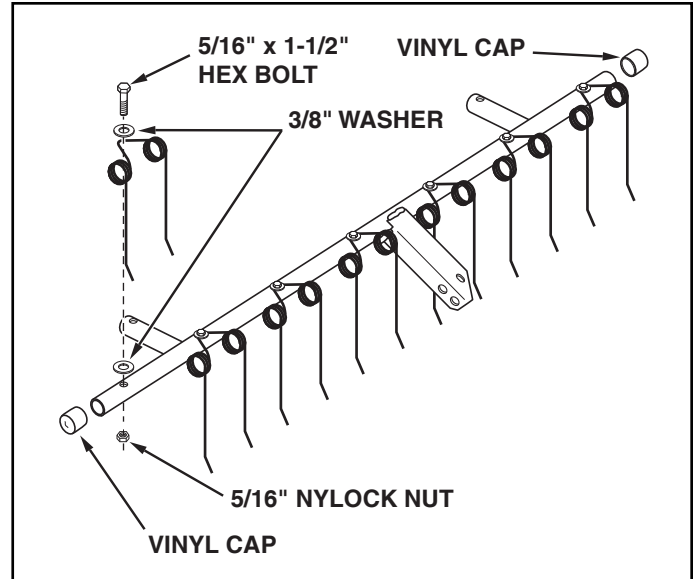

FIGURE 1
- Assemble a vinyl cap onto each end of the frame tube. See figure 1.
- Turn the frame assembly as shown in figure 1.
- Assemble seven spring tines to the top of the frame tube. Use a 5/16" x 1-1/2" hex bolt, two 3/8" flat washers and a 5/16" nylock nut for each spring tine. Place one 3/8" flat washer on top of the frame tube and the second 3/8" flat washer on top of the spring tine. See figure 1.